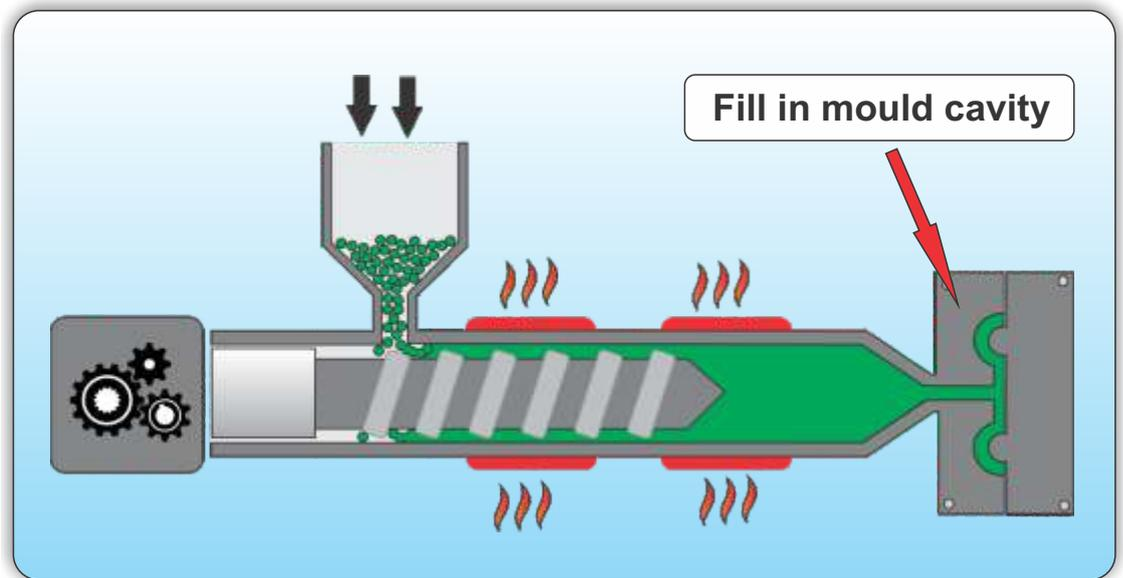

Figure 2.9 Step 3 of extrusion process
- 3** Through gates and hot runners, a screw injects molten plastic at high pressure into the mould cavity (Figure 2.9).